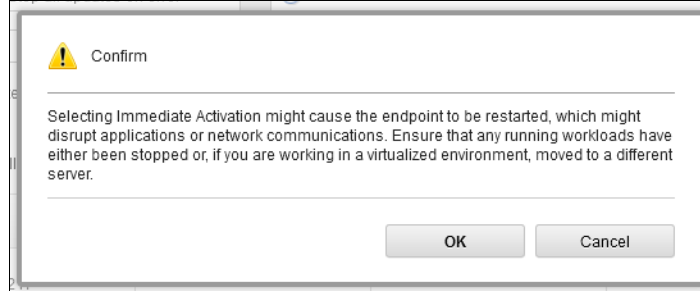

Figure 5-73 Confirmation for flashing firmware
- To start flashing the firmware, click **Perform Update**. When the Immediate activation option is chosen, you must confirm the operation by clicking **OK**, as shown in Figure 5-73.